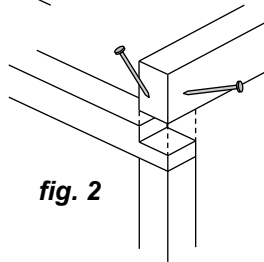

fig. 2
Step 2: Select Back and Front Base Plates 1.980m (Green), Back Top Plate 1.980m (Red) and Front Top Plate (70x45mm). With one End Frame lying on the ground, nail plates to frame, two 75mm nails per joint. Ensure Green joins to Green and Red joins to Red. See (**fig. 2**) for nailing detail on Top Front Plate (70x45mm).
Position Roof Sheets as shown in **fig. 1**. When fitting Clear Panel ensure it **OVERLAPS** Roof Sheets. Rivet sheet joints, one rivet 300mm from edge front and back. When riveting Clear Panel to Roof Sheets use sealed rivet with steel washer (**fig. 2**).